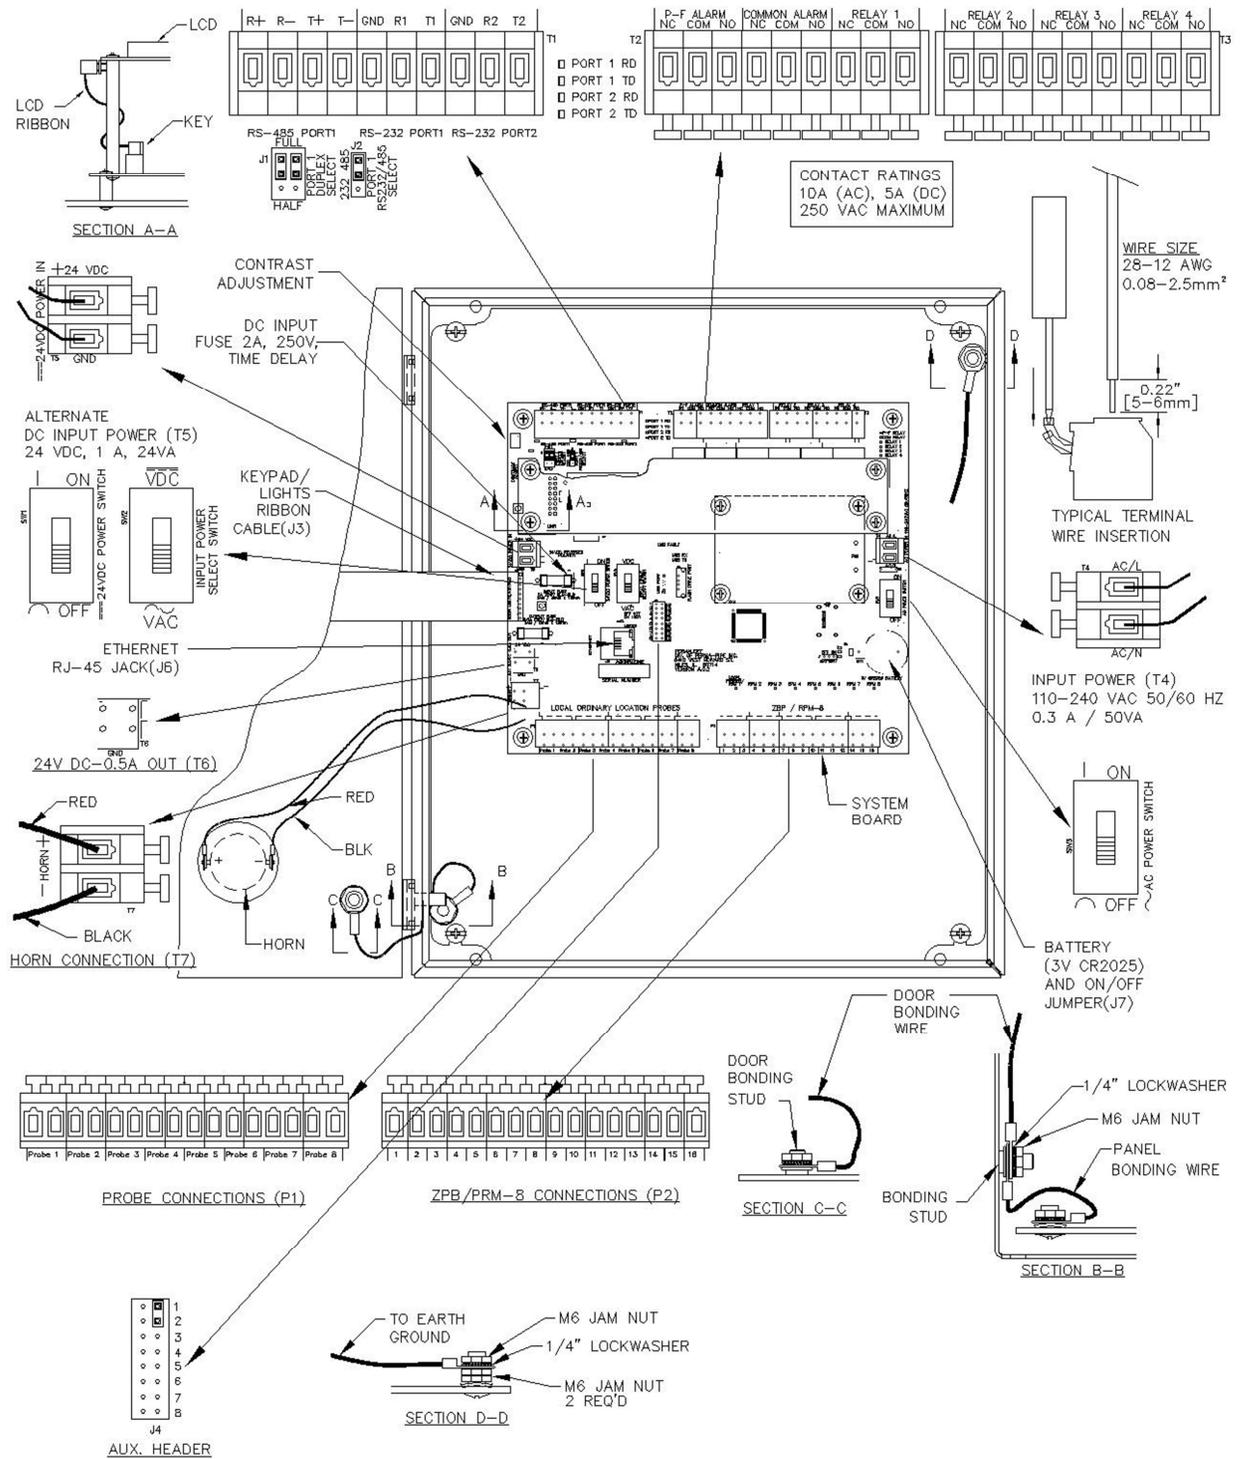
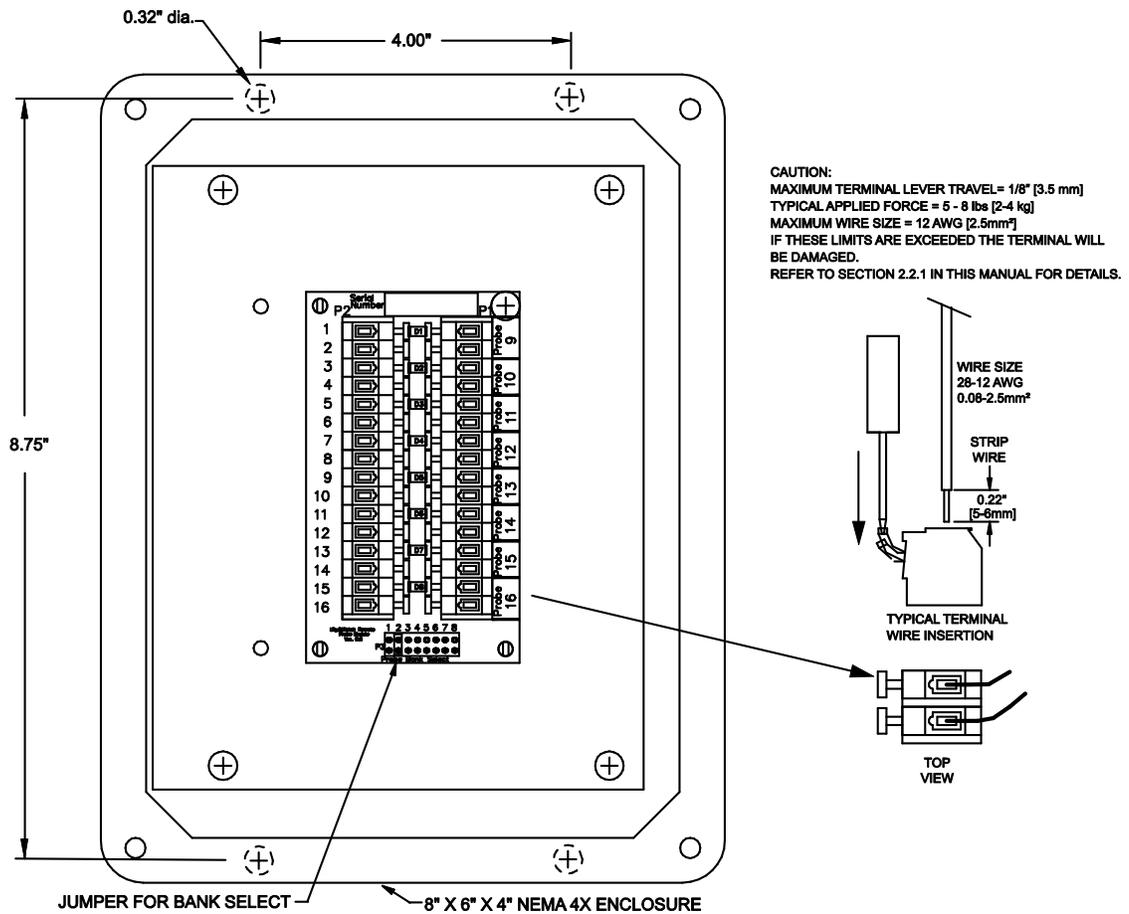

Figure 2-2 - Component Layout for LiquidWatch II Panel
Figure 3-1 – Remote Probe Module
The terminals on the LiquidWatch II system board use a quick-connect design that provides an easy, fast and robust connection. A flat blade screwdriver, 1/8" [3.5 mm], is used to press down on the terminal lever and open the terminal for easy wire insertion. Release the lever, and the wire is tightly clamped. **The acceptable wire size for connection to any terminal, including the mains, is 28 - 12 AWG [0.08-2.5 mm²].** The terminals can accommodate solid or stranded wires. **If ferrules are used with stranded wire, the maximum wire size is 14 AWG [1.5 mm²].** Refer to the detail located at the upper right side of figures 2-2 and 2.3. **Caution: The lever only travels 1/8" [3.5 mm] to open the terminal completely, and only requires 5 - 8 lbs. [2-4 kg] force. Do not exceed these limits or the terminal will be damaged.**
The LiquidWatch II must be permanently wired to instrument-quality power using appropriate certified conduit, fittings, and wiring. Refer to figures 2-2. The LiquidWatch II contains a universal power supply. The power requirement is 110-240 V_{AC}, 50 / 60 Hz, 0.3 A / 50 VA.
A suitable, external, over-current protection device, such as a fuse or circuit breaker (15 A), and disconnect device is recommended. The over-current protection and disconnect devices shall be installed on all ungrounded conductors, i.e. the terminal marked hot (L) (and neutral (N) terminal if ungrounded for 240 VAC). The disconnect device shall be located near the equipment and marked with appropriate ON / OFF markings as specified by local codes. The ground conductor must be easily identifiable as green with a yellow stripe insulation. Ground should be connected to the grounding connection on the upper right corner of the back panel as shown in Figure 2.2. Installation should be performed by qualified personal in accordance with local codes and procedures.
LiquidWatch II has 6 SPDT output relays rated for 250 VAC, 10 A. They are labeled "P - F Alarm", "Common Alarm", "Relay 1", "Relay 2", "Relay 3" and "Relay 4" (see figures 2-2). The relay contacts are labeled in their unpowered or "on-the-shelf" condition.
The contrast of the LCD can be adjusted by turning the contrast adjustment screw on the system board (Figures 2-2). This may be necessary to get the best viewing angle, depending on the mounting height of the LiquidWatch II panel.
The LiquidWatch II panels are designed to monitor up to 64 probes. The 64 probes are organized in 8 banks of 8 probes. The P1 terminal located in the LiquidWatch II panel (see Figure 2-2) can be wired directly to probes 1 – 8. If additional probes are monitored, remote probe modules (Model RPM-8) are required. Each RPM-8 has a bank select jumper, P3 that can be set to bank 1 through bank 8 and will monitor 8 probes as follows (Figure 3-1):